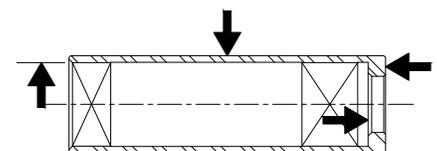

Figure 32
- When inspecting the sleeve, review the outer and inner tracks, replace if you have grooves or pits (see Figure 32).